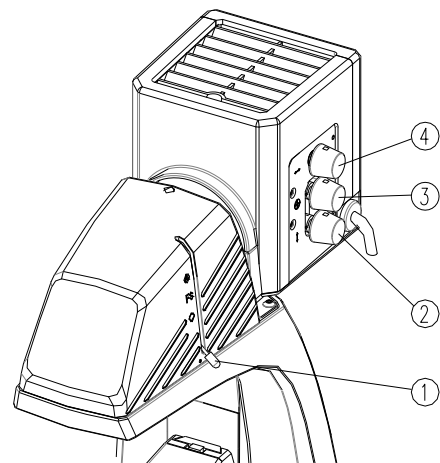

Fig.7 Adjustment of Field Diaphragm and filament
- Adjust field diaphragm lever ① to make diaphragm smaller until see the field. (Fig.7)
- d. Adjust lamphouse knobs ② ③ ④ (Fig.7) to make lamp filament image in the centre of aperture diaphragm, keep left right image in symmetry.